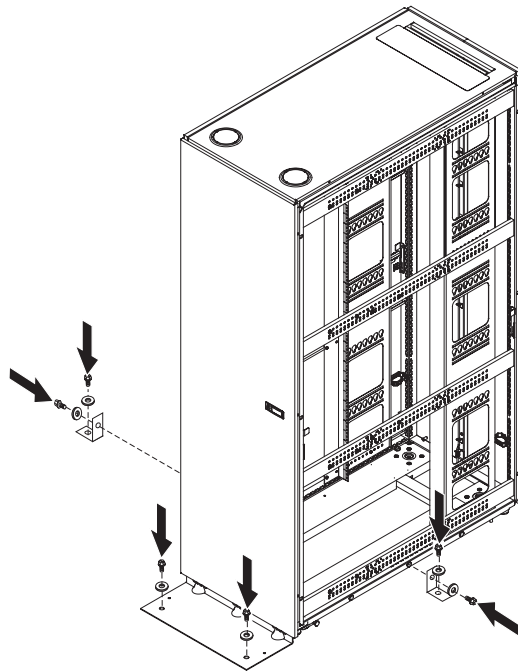

Figure 7. Installing the side stabilizer brackets and bolting the rack to the floor surface
- d. Attach the side stabilizer brackets to the center cage nut on each side of the rack with the hex bolts and washers (see Figure 7). The stabilizer brackets, bolts, and washers come in the hardware kit.
- 4. Bolt the rack to the floor surface through the holes in the front stabilizer and the side stabilizer brackets (see Figure 7) and reinstall the side covers.